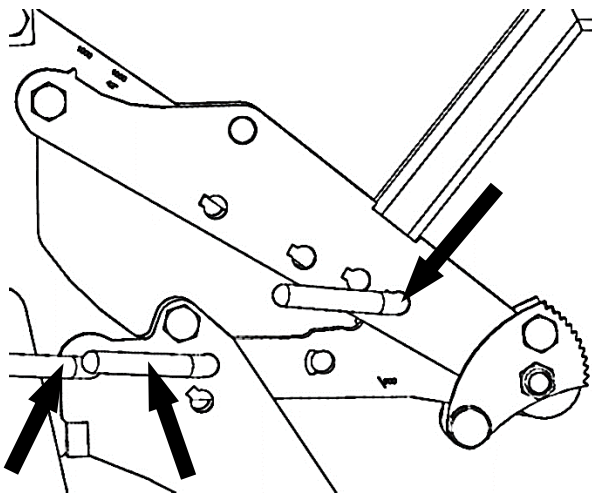

Fig. 1
- Lubricate and oil mobile parts (see arrows in Fig. 1, 2, 3).